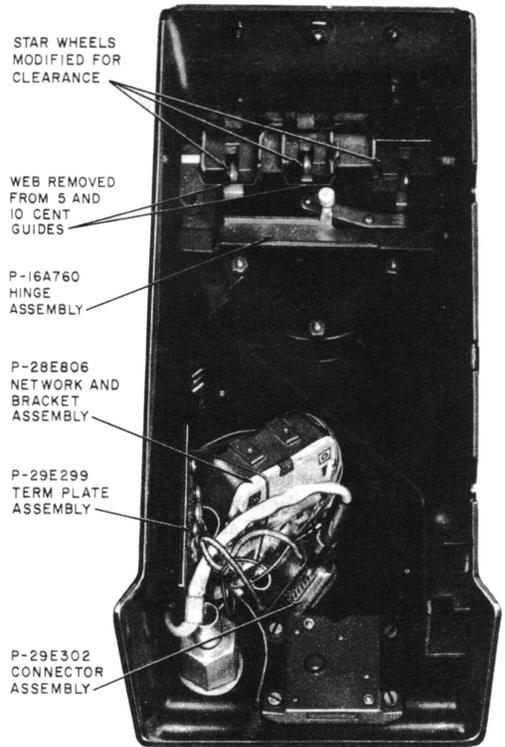

Fig. 2—Upper Housing With Gong Signal and Chute Assembly Removed
**2.02** The starwheels on rear of coin guide have been cut off to provide clearance for adding dummy chute (Fig. 2). Die cast webs across 5 and 10 cent guides have also been removed.